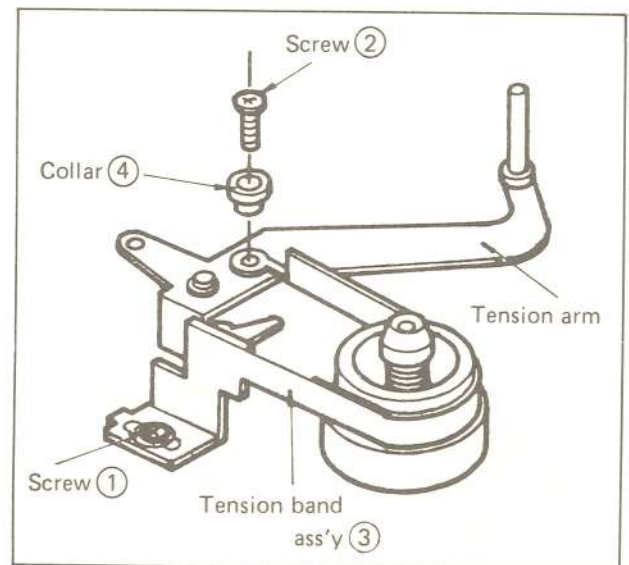

Fig. 4-19(a) Tension band replacement
2. Remove screws ①, ② and tension band assembly ③ from the chassis as shown in Fig. 4-19(a).
3. Install the new tension band ass'y and collar ④, then tighten screws ① and ②.